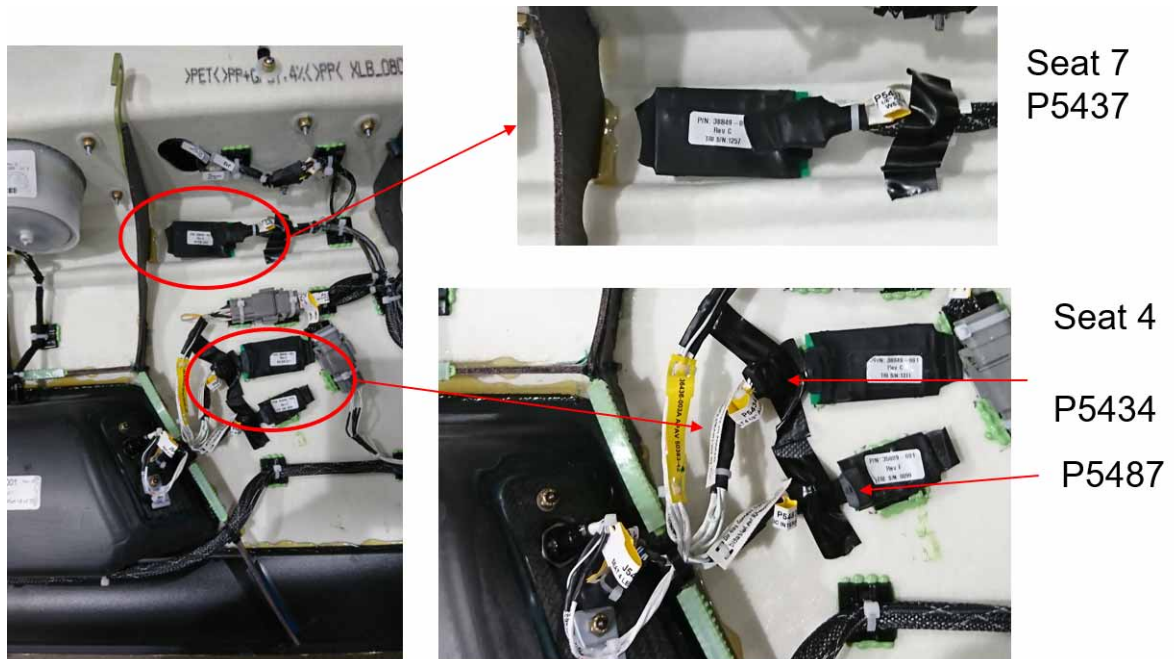

Figure 04
- (1) Locate seat 4 connector right of seat 7, on inside wall of RH aft lower panel in front of jack assembly. (See Figure 04)
- (2) Locate seat 7 connector right of seat 7, in middle area of inside wall of RH aft lower panel.
- (3) Disconnect connectors from circuit card assemblies.
- (4) Remove circuit card assemblies from aircraft.
- (5) Cap and stow connectors.
- (6) Label each connector "DO NOT CONNECT SYSTEM DISABLED PER SBA5X-23-03".